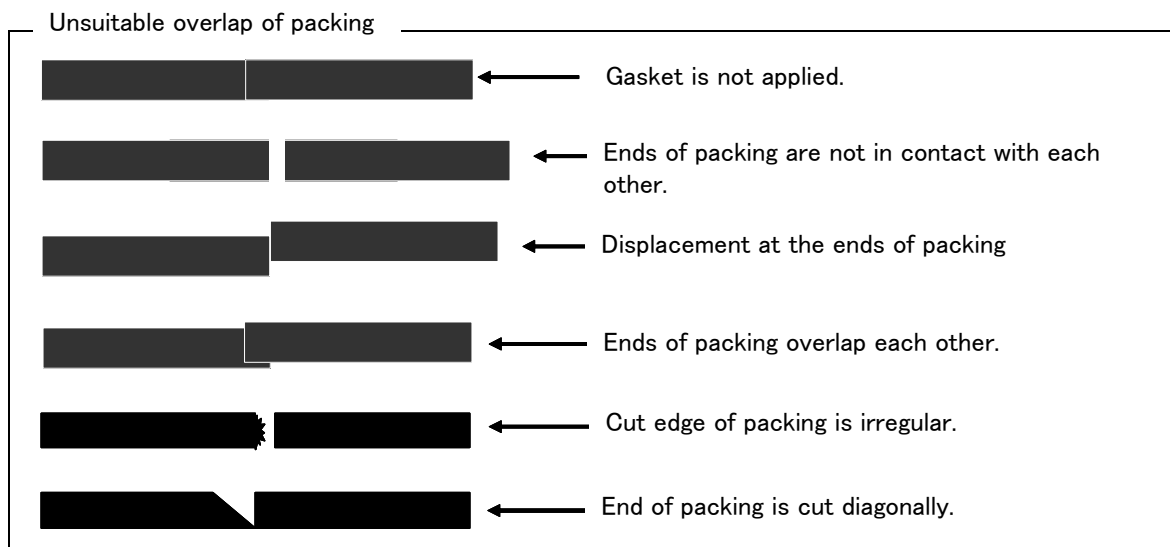

Fig.5-9 : Examples of packing overlaps
- 4) Although the CONBOX cover, shoulder cover and No. 1 arm cover (L) sticks two or more packings per place, it has length with which packing ends overlap. Stick packing in the following procedures. For more information, see "Fig.5-9 : Examples of packing overlaps". Examples of improperly treated cut edge are shown, as well.